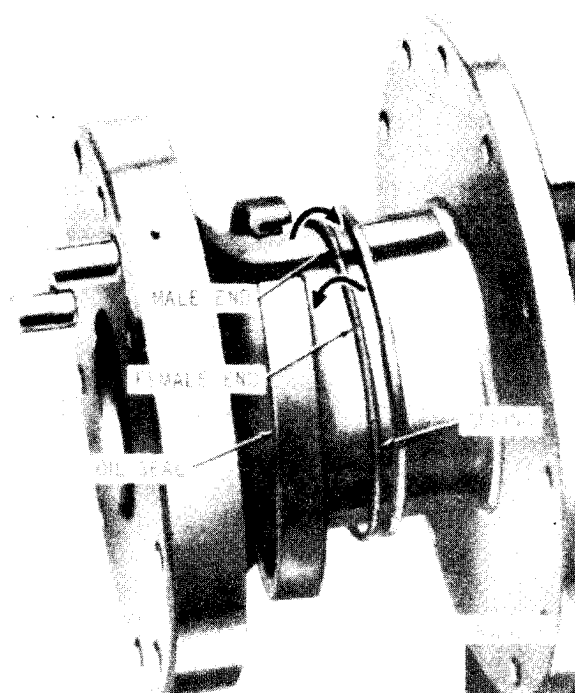

Figure 3-171. Removing or installing crankshaft oil and seal.
b. Separate the retaining spring (fig. 3-171), from retaining lip of oil seal. Disengage the ends of the spring at its parting line with half turn as shown. Separate seal at split line and remove from the crankshaft. Discard seal and spring.